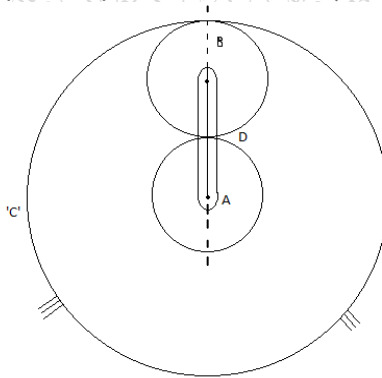

Fig 1.
- B A planetary gear is train consisting of spur gear is shown in fig 1. The sun gear 'A' rotates in clockwise 20 Kw 10 power at 1460 rpm to the gears train. The number of teeth on sun gear A. planet gear B and ring gear C are 20, 40 and 100 respectively. Calculate the torque that arm D can deliver to its output shaft.